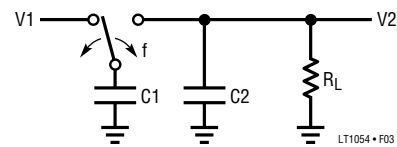

Figure 3. Switched-Capacitor Building Block
In Figure 3 when the switch is in the left position, capacitor $C1$ will charge to voltage $V1$. The total charge on $C1$ will be $q1 = C1V1$. The switch then moves to the right, discharging $C1$ to voltage $V2$. After this discharge time the charge on $C1$ is $q2 = C1V2$. Note that charge has been transferred from the source $V1$ to the output $V2$. The amount of charge transferred is:
*SEE FIGURE 3